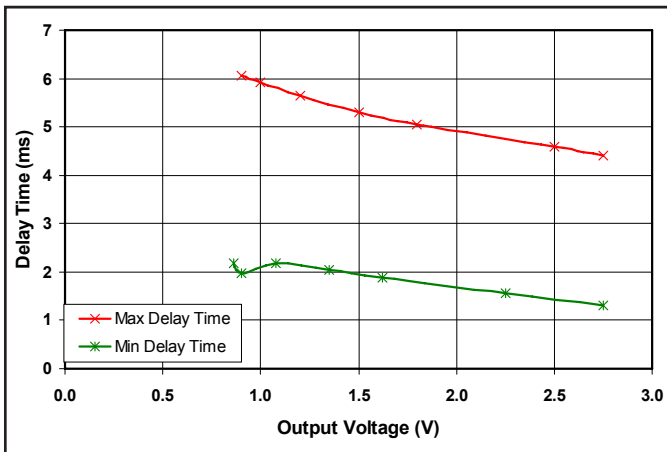

Figure 21: Minimum and Maximum Startup Delay Time (enable to 10%) over temperature versus output voltage (includes trimming).
- Note 3:** Tantalum or similar with additional ceramic as needed to reduce ripple current in external capacitors. See Figure 21. Output capacitance of $\leq 1000\mu\text{F}$. Additional input capacitance equal to half of the output capacitance is recommended when more than 1000 μF of output capacitance is used. Consult factory for more demanding applications. Also refer to Application Considerations section of this datasheet.